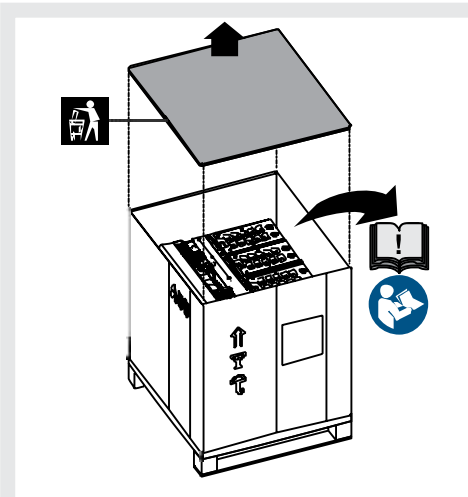

Figure 15
2. Open the upper part of the packing box. See Figure 15.